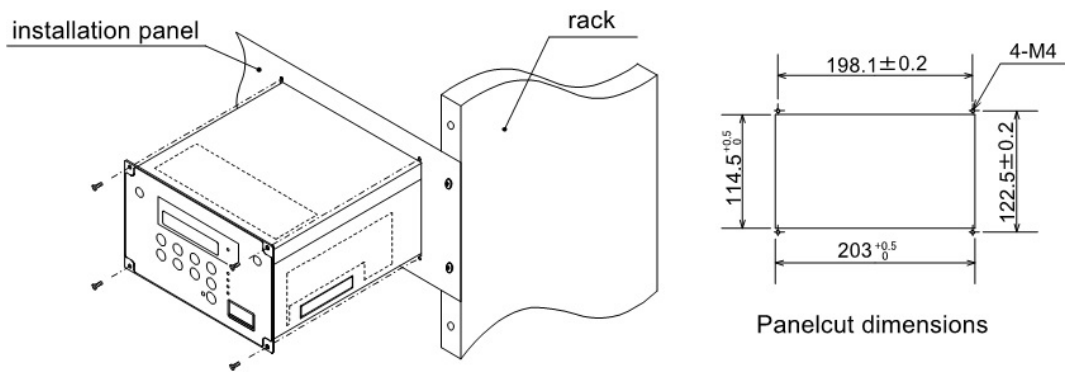

Fig. 5-2 Mount the controller
- (1) Turn the controller over and remove the four rubber pads.
- (2) Pass the controller through the cutout hole in the installation panel and secure it with four screws (Refer to Fig. 5-2).